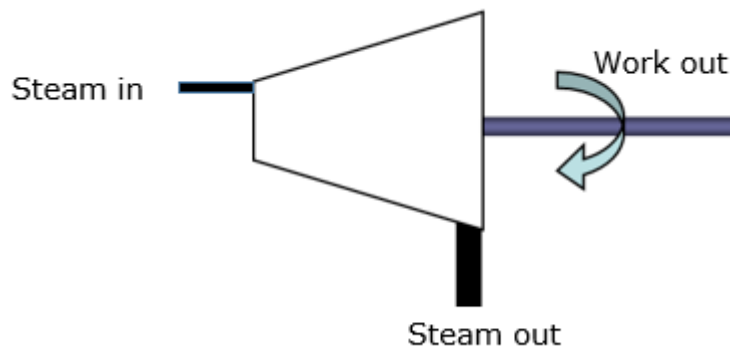

Figure Q9
9. The steam turbine shown in Figure Q9 receives steam at 180 bar and 550°C with ingoing specific enthalpy and entropy, $h_{in} = 3411.5 \text{ kJ} \cdot \text{kg}^{-1}$, $s_{in} = 6.394 \text{ kJ} \cdot \text{kg}^{-1} \cdot \text{K}^{-1}$ respectively. The isentropic efficiency of the turbine is 96% . Calculate the specific work out of the turbine if the steam outlet condition is at 0.05 bar .